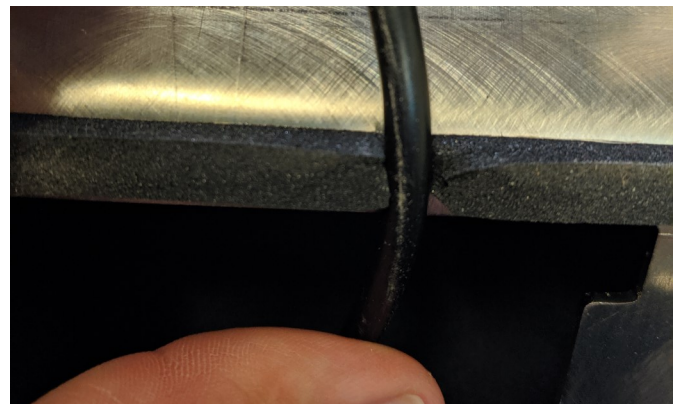

Figure 3—Cutting slot in gasket.
7. Cut a small slot in the gasket to allow for the wire to feed through. Holding the light up to the bracket will give a good idea where to cut the slot to avoid pinching the wire. (**Figure 3**)